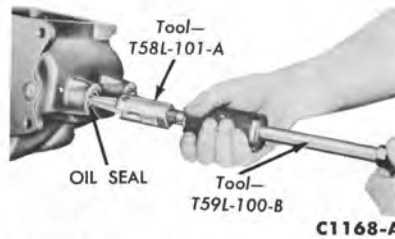

FIG. 7—Cam and Shaft Oil Seal Removal
12. If required, the shift lever oil seals may be removed with the tools shown in Fig. 7.